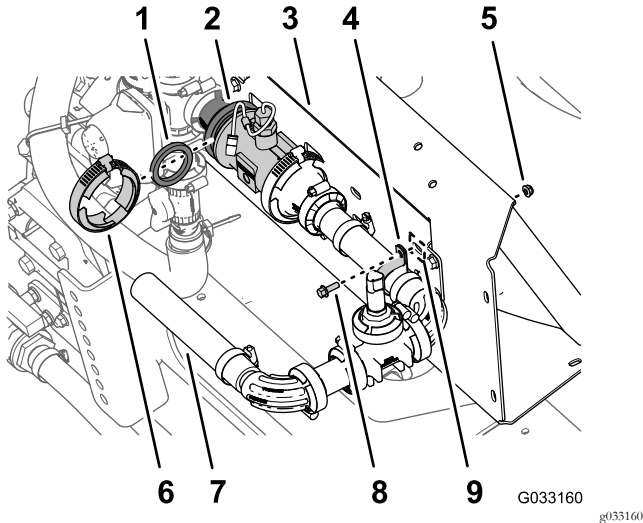

Figure 84
1. Align the gasket (2-1/4 inches) that you removed in step 3 of Removing the Connector Tube and Reducer Adapter (page 22) between the flow meter and the reducer adapter that is installed at the right side of the master-control valve (Figure 84).
2. Loosely assemble the gasket, flow meter, and reducer adapter (Figure 84) with a flange clamp 76 mm (3 inches) that you removed in step 2 of Removing the Connector Tube and Reducer Adapter (page 22).
3. Secure the pressure transducer and manifold to the slot in the manifold mount with a R-clamp, flange-head bolt (1/4 x 3/4 inch), and flange locknut (1/4 inch) as shown in Figure 84.